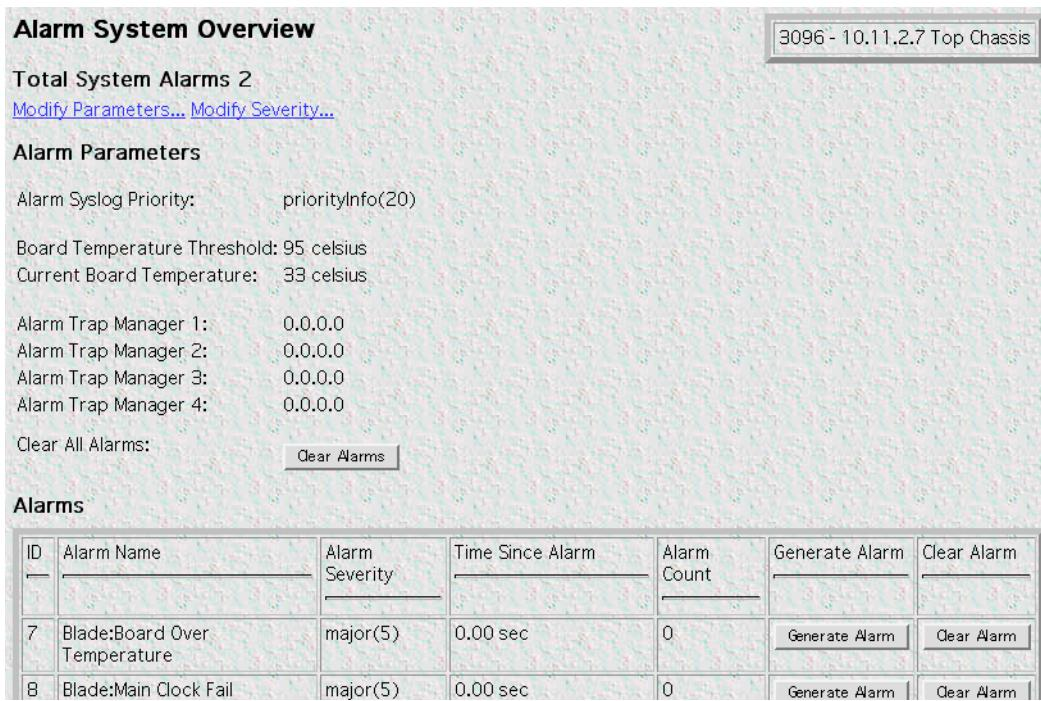

Figure 13. Alarm System Overview window (Model 3096RC version shown)
The *Alarm System Overview* window (see figure 13) and related windows enable you to manage the T-DAC's alarm system. Click on the *Alarms* hyperlink in the T-DAC's Configuration Menu to display the *Alarm System Overview* window.
- Management web page indication—The *Alarms* section (see figure 14) of the *Alarm System Overview* window (see figure 13 on page 50) uses color-coded highlighting to indicate which alarms are active and the severity levels of active alarms.
As shown in figure 13 on page 50, the *Alarms System Overview* window provides links to the following alarm system management windows:
This section describes configuring alarm severity levels. Clicking on *Modify Severity* (see figure 13 on page 50) displays the *Alarm Severity Configuration* window (see figure 18) listing of T-DAC alarms. From this window you can assign the severity for each alarm (*critical*, *major*, *minor*, *informational*, or *ignore*).